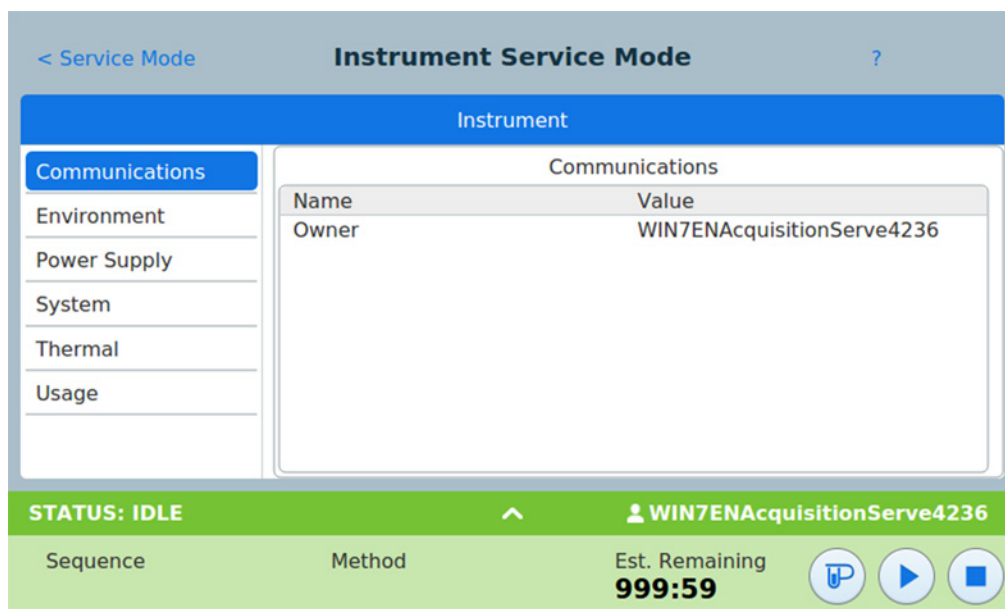

Figure 36 Instrument Service Mode page
- 3 Select the desired component type by pressing the corresponding button. The Service Mode page for the selected component appears. See Figure 36.